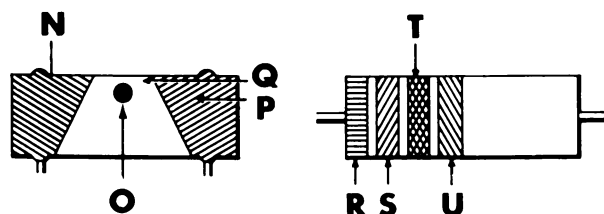

Figure 6C.—Color code for fixed composition resistors.
● To answer items 24 through 37, keep in mind that the JAN designation for fixed composition resistors like the ones shown in figure 6C and the JAN designations for mica and ceramic capacitors like the ones shown in figure 6D both consist of five parts. Each part carries certain information about the component.
26. The colored band R on the axial-lead resistor in figure 6C corresponds to a portion of the
27. The colors O, P, and Q of the radial-lead resistor in figure 6C correspond to the
28. If the axial-lead resistor shown in figure 6C has a resistance of 16,000 ohms, the band T will be colored